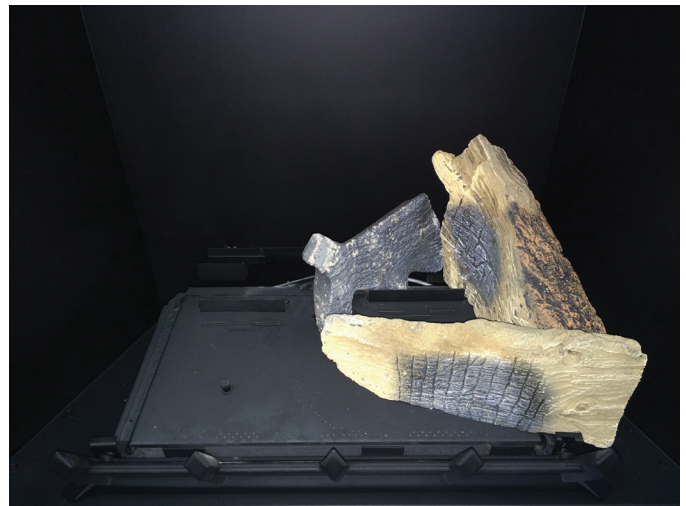

Figure 26.
3. Place the middle rear log #3 with the center log placed behind the right flame bracket. The rear log will rest on the back log support. Figure 26